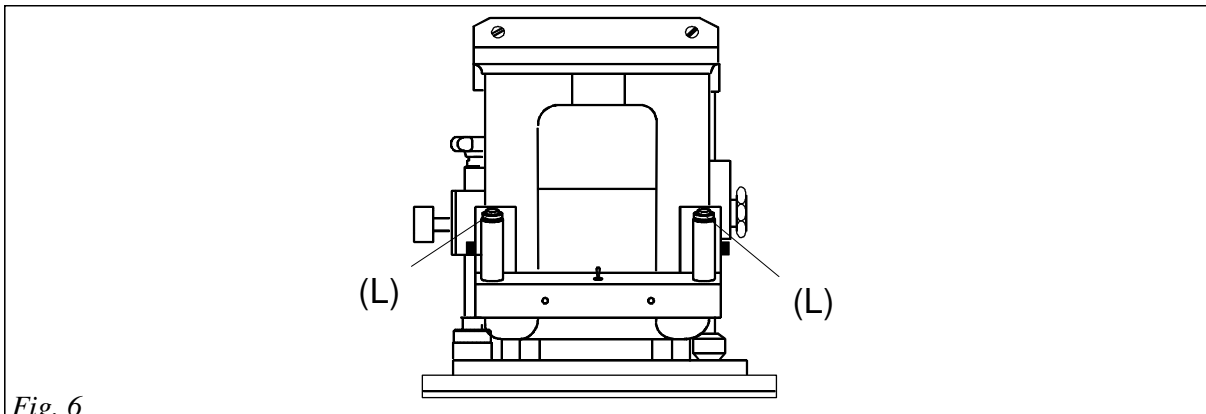

Fig. 6
- d) simultaneously press the synchronized pushbuttons (L): the striking plate will move downward till gently coming into contact with the cutting die (Fig. 6)